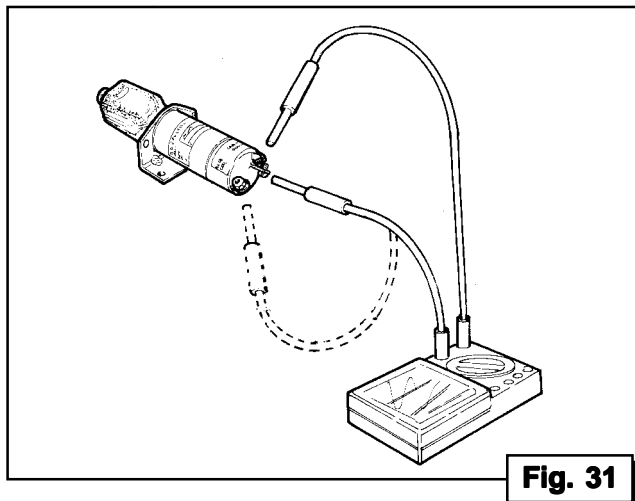

Fig. 31
- Scollegare i cavi dai due terminali fast-on (Fig. 31)
- Disconnect the two wires from the fast-on terminals (Fig. 31)